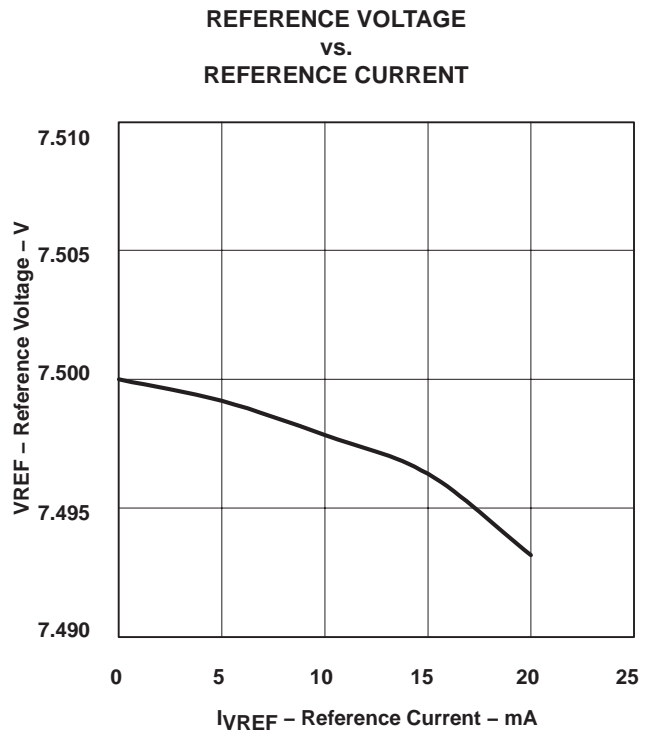

Figure 6
2. See Figure 6 for reference variation.